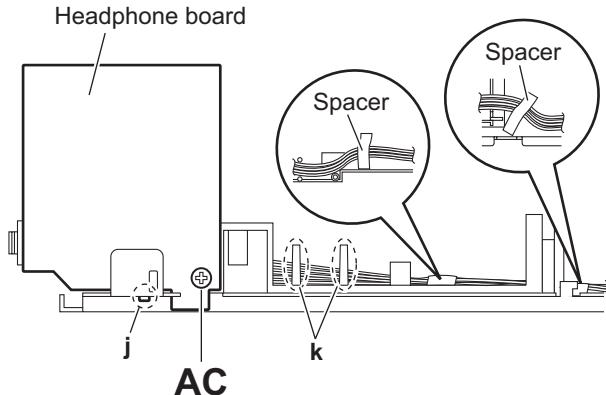

Fig.23
3.1.17 Removing the headphone board (See Fig.23)